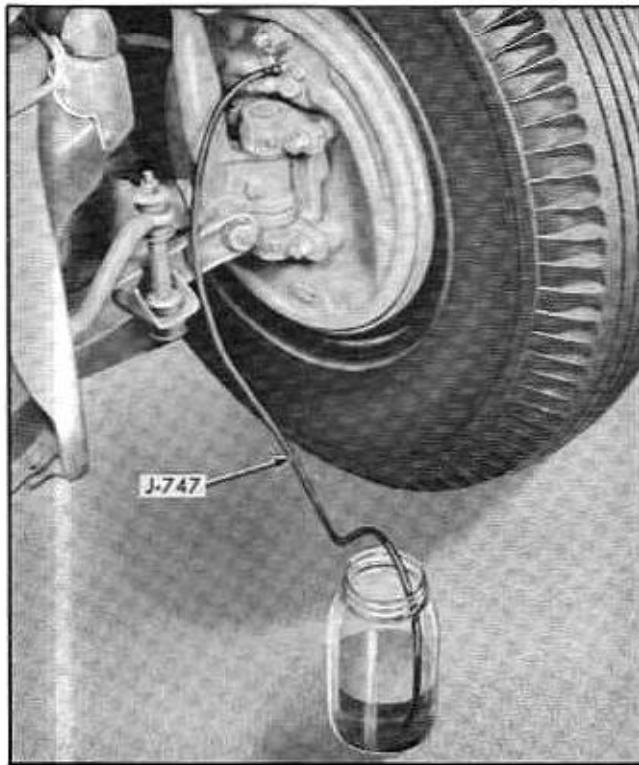

Fig. 5-11 Bleeding Brakes
2. Starting at left front wheel, remove screw from bleeder valve and attach bleeder tube J-747, allowing tube to hang submerged in brake fluid in a clean quart glass jar (Fig. 5-11). Unscrew bleeder valve three quarters of a turn, depress pedal full stroke and allow it to return slowly making sure end of bleeder tube is under surface of liquid in container. Continue operating pedal, refilling reservoir after each five strokes (unless an automatic filling device is used), until liquid containing no air bubbles emerges from bleeder tube. **CAUTION:** Bleed tube must always be used when bleeding brakes. In addition, end of tube must be below level of brake fluid in glass jar when bleeding other than by pressure.